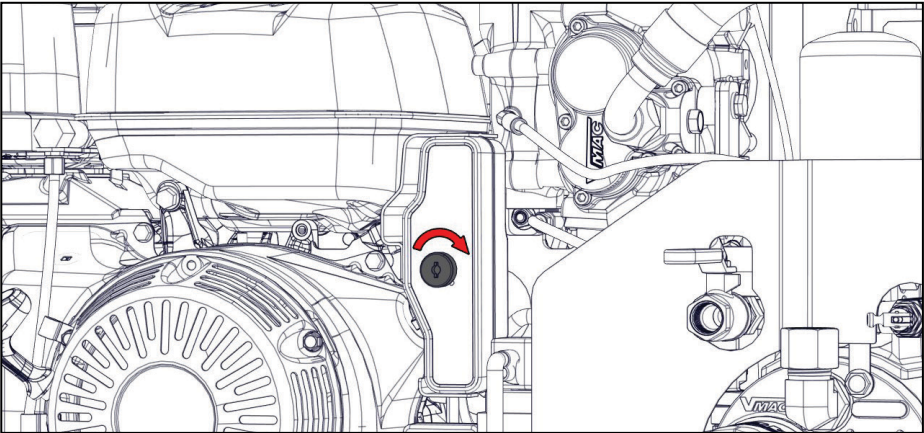

Figure 17 — Key switch
- 6) Turn the ignition key switch to the "START" position and hold it there until the engine starts (maximum of 5 seconds) (Figure 17).